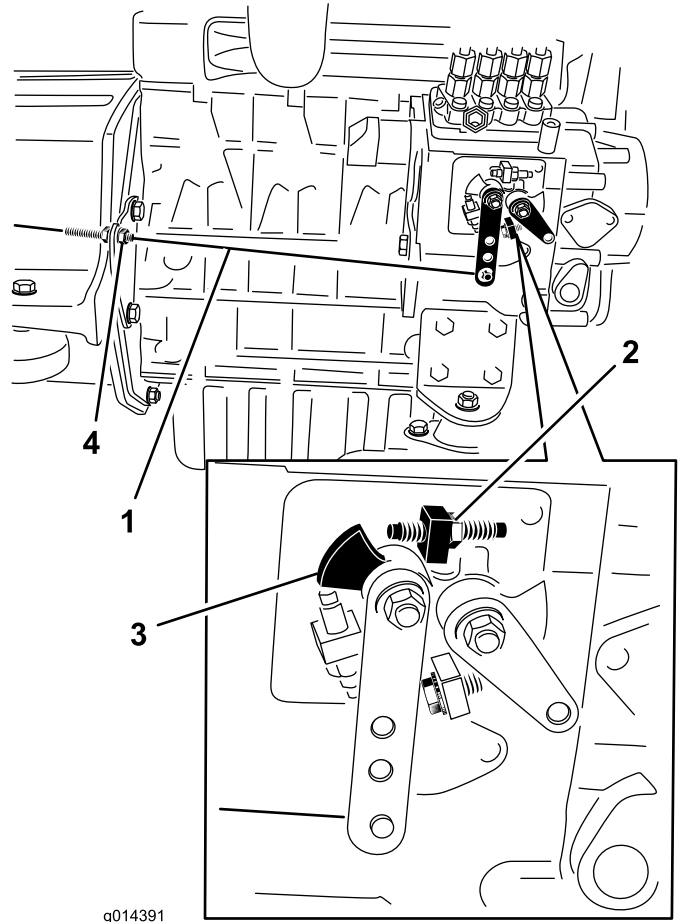

Figure 33
2. Check the position of the speed control lever on the engine fuel injection pump. The speed control lever should be contacting the high speed screw when the throttle control lever is in the Fast (detent) position (Figure 33).
3. If necessary, the position of the throttle control cable jam nuts can be adjusted until speed control lever contacts high speed screw when throttle control lever is at Fast (detent) position (Figure 33).